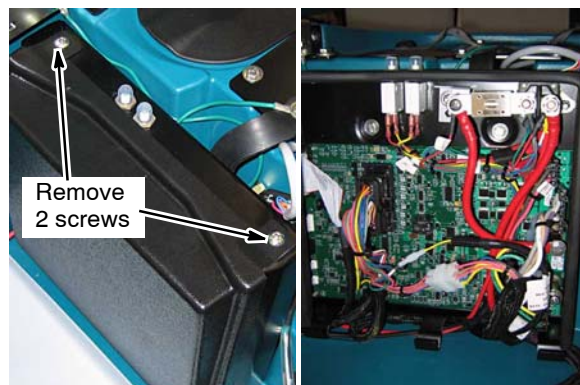

Fig. 2
3. Remove the control box cover to access the wire connections (Figure 2).